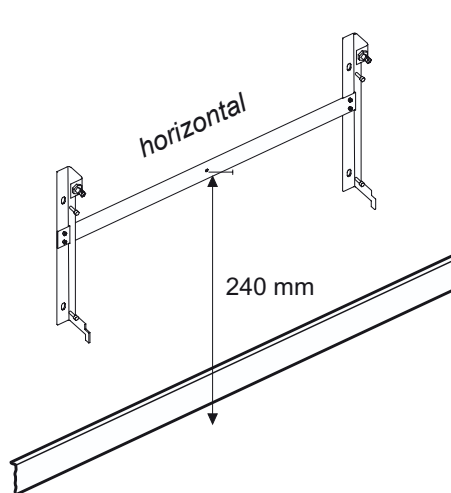

Fig. 2
- Hammer a nail in the middle hole on the fixture and use a spirit level to get it square. (The distance between the hole in the middle and the floor should be 240 mm.) See Fig. 2.